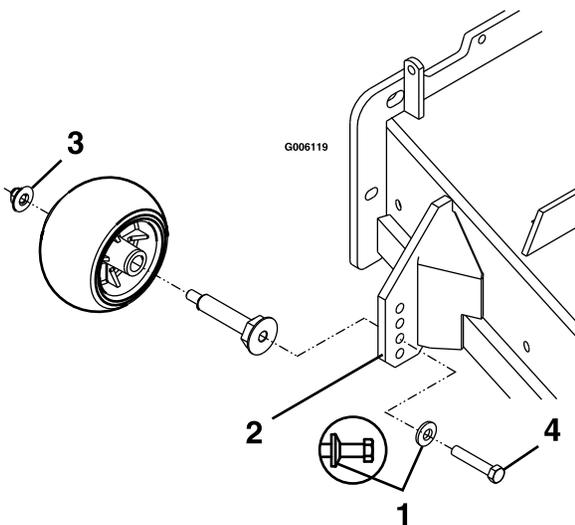

Figure 18
- Be sure the roller bolts are installed with the spring disc washer between the head of the bolt and the mounting bracket (Figure 18).
- Torque the 3/8-24 x 2 Gr 8 hex capscrew to 50-55 ft-lb (68-75 N-m) (Figure 18).